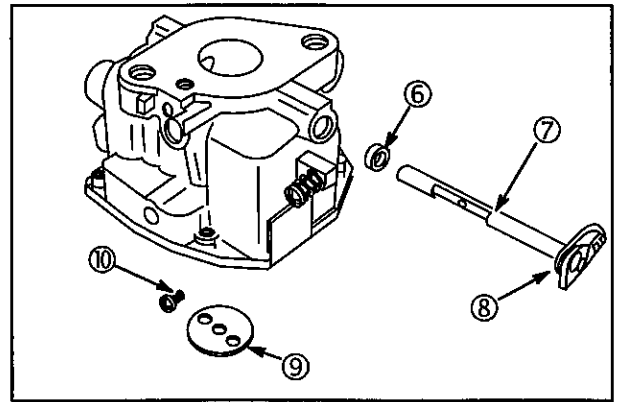

Fig. 87
7. Install new throttle shaft seal (6) with sealing lip in, **Fig. 87**.
8. Install throttle shaft (7) and spacer (8).
9. Install throttle plate (9) to throttle shaft.